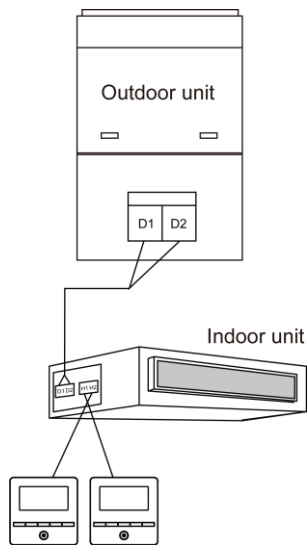

Fig. 3.5 Two wired controllers control one indoor unit
- (1) When one wired controller controls multiple indoor units simultaneously, the wired controller can connect to any one indoor unit, but the connected indoor unit must be the same series indoor unit. The total quantity of indoor unit controlled by wired controller can't exceed 16 sets, and the connected indoor unit must be within the same indoor unit's network. Wire controller must set quantity of group control indoor units. Please refer to 3.2.3 Parameters Setting.
- (2) When two wired controllers control one indoor unit, the addresses of those two wired controllers should be different. Please refer to 3.2.3 parameter setting.
- (3) When two wired controllers control multiple indoor units, wired controller can be connected to any one indoor unit, while the connected indoor unit should be the same series indoor unit. The addresses of those two wired controllers should be different. Please refer to 3.2.3 parameter setting. The total quantity of indoor unit controlled by wired controller can't be more than 16 sets and all connected indoor units must be within the same indoor unit network. Wire controller must set quantity of group control indoor units. Please refer to 3.2.3 Parameters Setting.
- (4) When one (or two) wired controller(s) control(s) multiple indoor units at the same time, the controlled indoor unit's setting should be the same.
- (5) Wiring of wired controller and indoor unit network must be according to one of the four wiring methods as shown in fig 3.4-3.7. As for the connection method shown in fig 3.5 and 3.7, there should be only one master wired